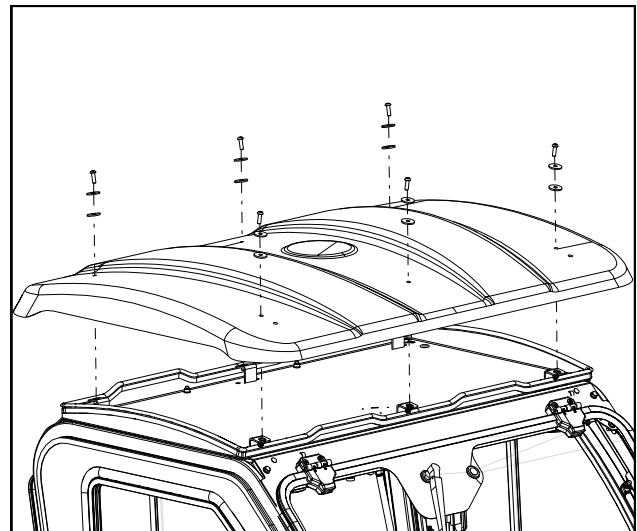

Fig. 3.6
- 3.6 Re-install the plastic roof by aligning the holes in the roof to the threaded inserts and re-use the button head bolts, fender washers and rubber washers, with the rubber washer against the plastic panel. See figure 3.6.